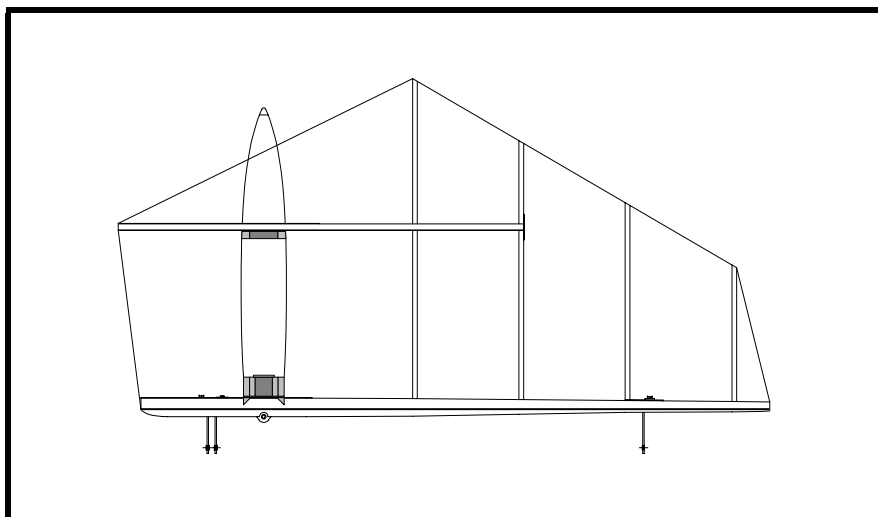

Figure 8
- ❑ Fit the remaining ribs. See Figure 8. If you wish, you may fit the Sta. 1 ribs (see Drawing No. 410), but these ribs are not installed until after the fuselage skin is installed.